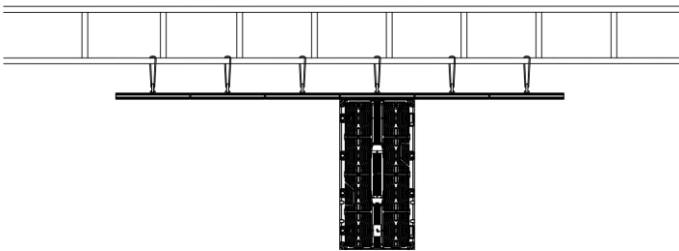

Figure 2-8 Installation of Hanged Cabinets (1)
- 1) Adjust the levelness of the hanging beam by using the synthetic fibre slings, to prevent tilting of the LED display, as shown in Figure 2-8.